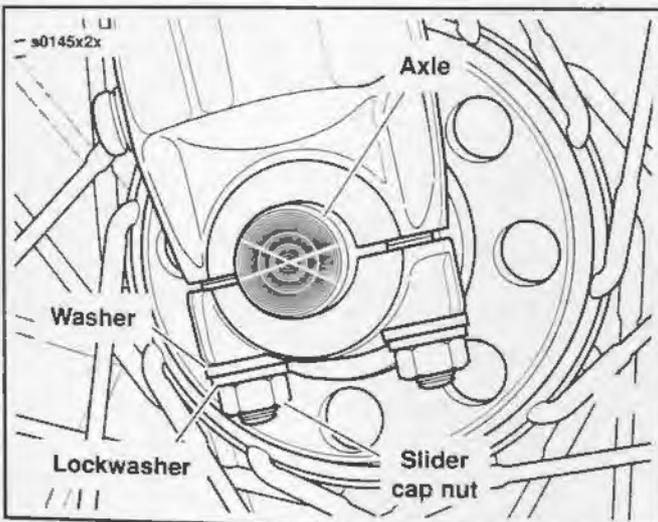

Figure 2-2. Front Wheel Mounting (FLSTC right side)
4. See Figure 2-2. Loosen the slider cap nuts and pull the axle free.